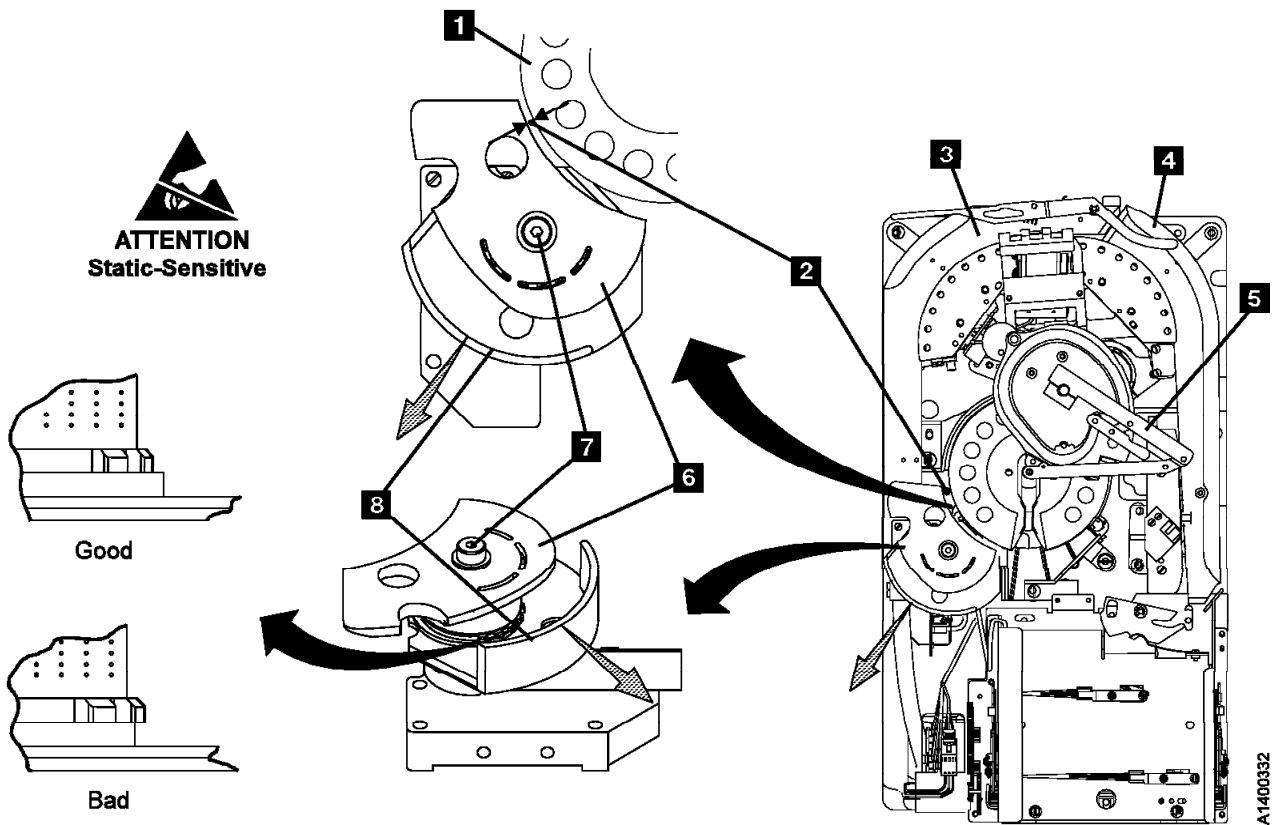

Figure 328. Tension Transducer Plastic Shield
2. See Figure 328.
Plastic Shield: See Figure 328 on page LOC*CAR-68.
3. Ensure that the first four teeth on the lower ceramic guide do not extend beyond the top edge of the inner hub of the black plastic guide **8**. See the **Good** and **Bad** illustrations in Figure 328 on page LOC*CAR-68.
of the tension transducer. See the grey shaded arrows in Figure 328 on page LOC*CAR-68.
Note: You should be able to move the lower black plastic guide so that all or most of the ceramic teeth do not extend beyond the top edge of the inner hub of the black plastic guide. See the **Good** and **Bad** illustrations in Figure 328 on page LOC*CAR-68. The most important area is the first four teeth that the leader block will pass on a load operation.
- h. Check again to ensure that the teeth on the lower ceramic guide do not extend beyond the top edge of the inner hub of the black plastic guide. See the **Good** and **Bad** illustrations in Figure 328 on page LOC*CAR-68.